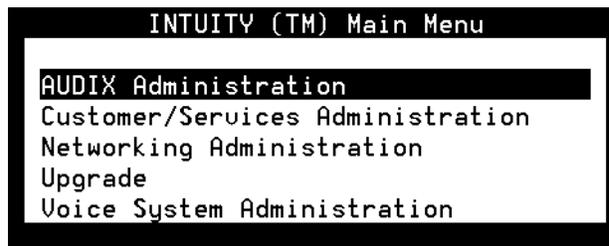

Figure 12-1. Lucent INTUITY Main Menu
2. Start at the Lucent INTUITY Main Menu (Figure 12-1).
1. Starting at the Lucent INTUITY Main Menu (Figure 12-1) select